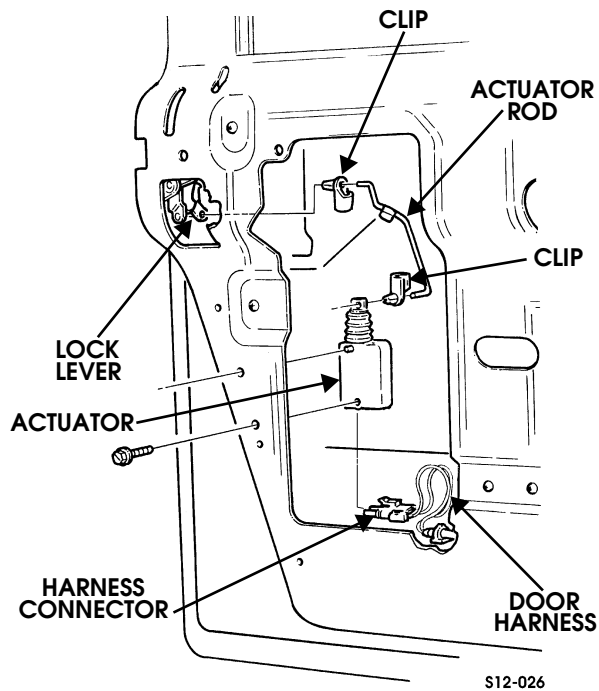

Figure 12-104: Door Lock Actuator Removal/Installation
4. Detach door harness connector from door actuator (Figure 12-104).
1. Connect clip and actuator rod to lock lever (Figure 12-104).